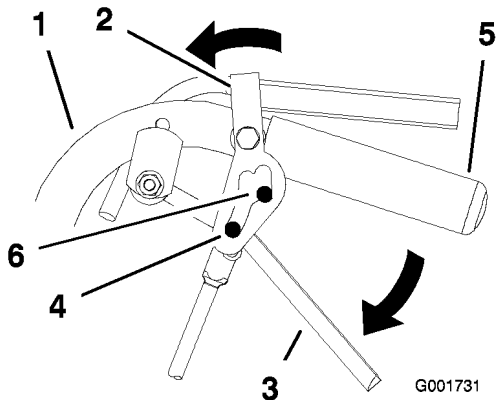

Figure 10
2. Place thumbs on the upper part of locks and move them forward until the pins are in the forward slot (Figure 10).